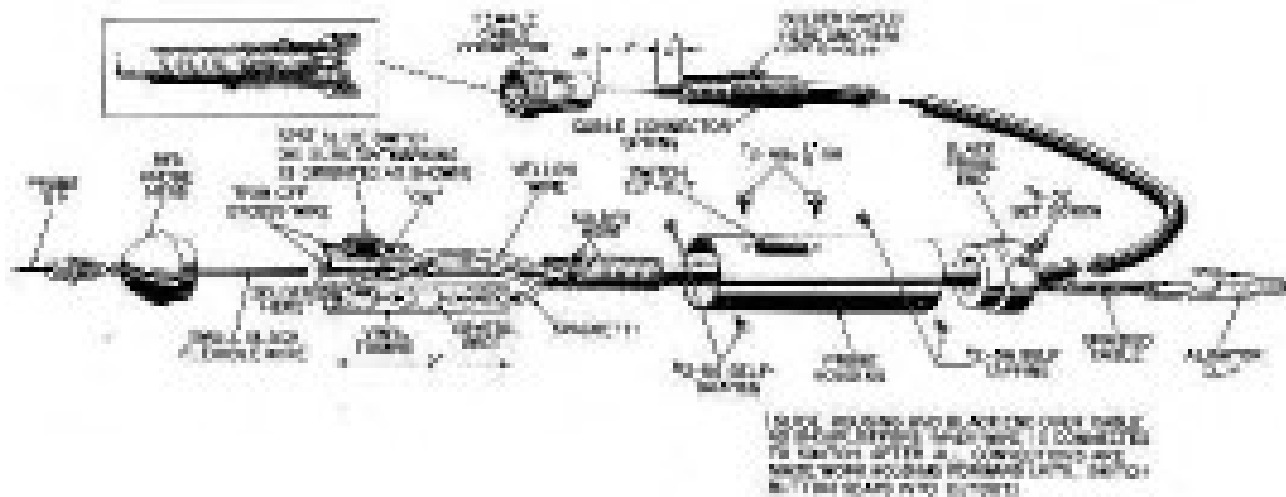

FIGURE 14
- () 142. Slide the black probe end over the cable and spring, with the larger diameter portion of the probe end toward the rear. See Figure 14.
- () 143. Slide the probe housing over the cable and spring, with the switch end toward the front. See Figure 14.
- () 144. Connect the tinned inner conductor of the cable to the SPST slide switch terminal at the "ON" end of the switch (Don't Solder). See Figure 14.
- () 145. Connect the small, black flexible wire from the probe tip to the SPST slide switch terminal at the "OFF" end of the switch (Don't Solder). See Figure 14.
- () 149. Slide the 2" length of vinyl tubing over the resistor-rectifier-capacitor network, bend the long resistor lead back and connect it to the SPST slide switch terminal at the 'OFF' end of the switch (Solder). See Figure 14.
- () 150. Connect one end of a 3- $1\frac{1}{2}$ " length of yellow hook-up wire to the probe cable spring (Solder). Connect the other end to the side of the slide switch housing (Solder). See Figure 14.
- () 156. Loosen the set screw in the female cable connector body and remove the connector spring. Slide the connector spring over the end of the cable, with the small diameter end of the spring toward the cable end. See Figure 14.
- () 157. Unwind the spiral shield back to the black outer insulation, twist the loose wires of the shield into a compact strand, then fold the shield back until the end extends onto the large diameter section of the spring. See Figure 14.